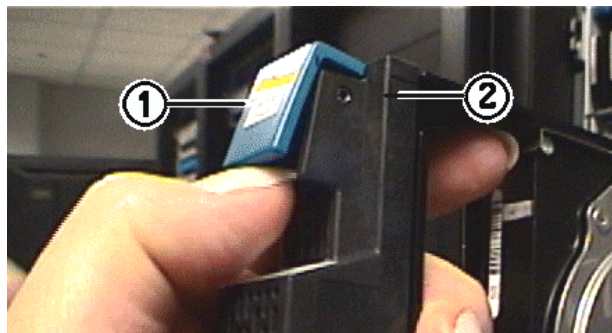

Figure 9-3: Unlocking the Lock Lever
5. Unlock the lock lever on the new drive, as shown in Figure 9-3.